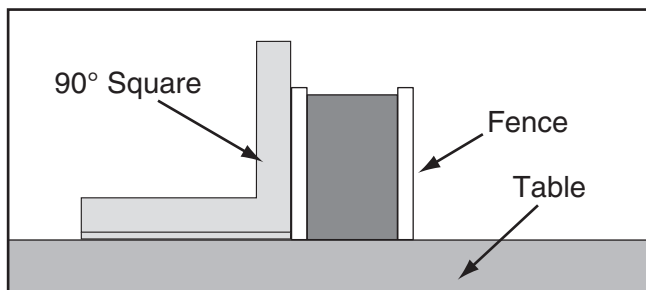

Figure 117. Checking if fence is square to table.
8. Place square on table and against face of fence, as shown in **Figure 117**, to check if fence is square to table.